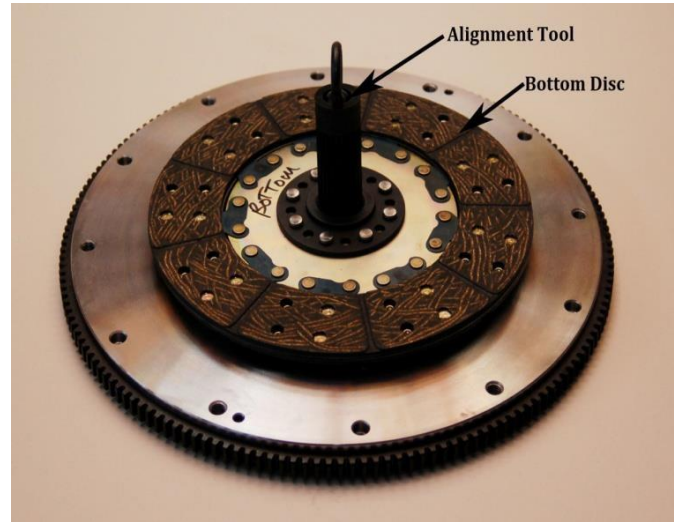

Figure 4
- 4) Install disc labeled “bottom” to the flywheel using the supplied alignment tool. Be sure the disc is installed with the label indicating ‘flywheel side’ is forward toward the flywheel. Figure 4